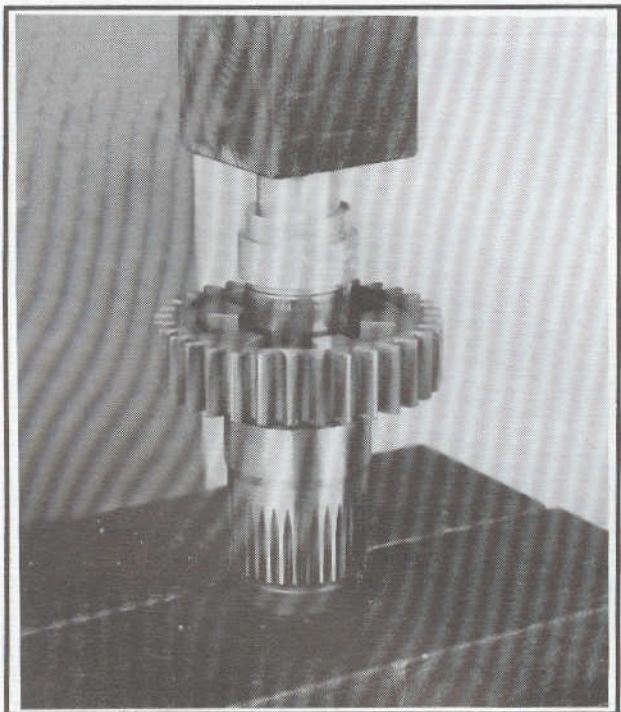

Figure 7-28. Install Transmission Side Needle Bearing in Main Drive Gear
11. See Figure 7-28. Turn over the main drive gear in the arbor press. With the tool HD-34734, at the 0.090 in. step, press in inner bearing.